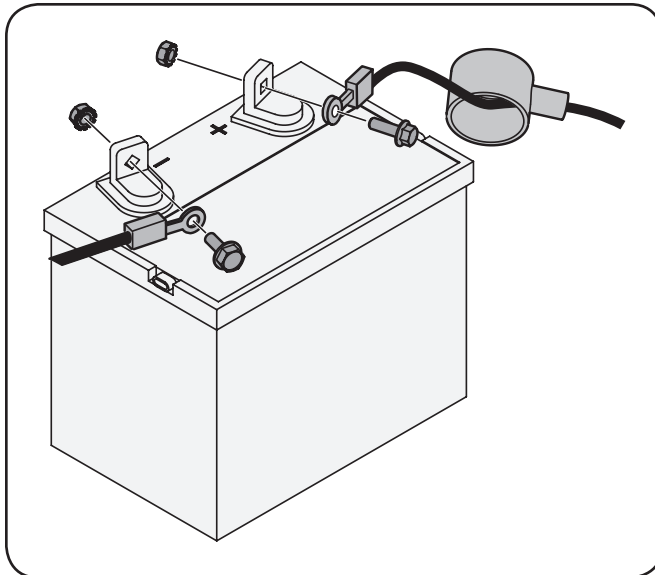

Figure 3-3
1. Remove the plastic cover, if present, from the positive (+) battery terminal and attach the red cable to the positive (+) battery terminal with the bolt and hex nut. See Figure 3-3.
2. Remove the plastic cover, if present, from the negative (-) battery terminal and attach the black cable to the negative (-) battery terminal with the bolt and hex nut. See Figure 3-3.